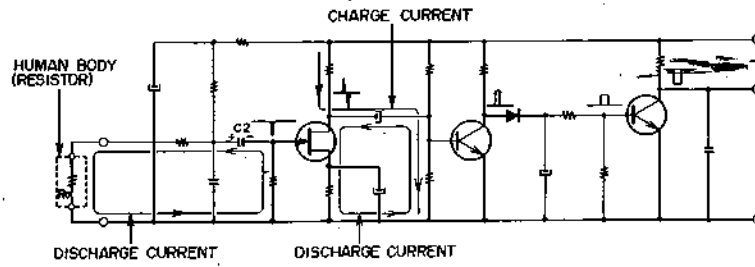

Fig. 5
2-3. WHEN A BUTTON IS TOUCHED WITH A FINGER AND AT THE SAME TIME THE DECK CHASSIS IS TOUCHED WITH ANOTHER FINGER OR A HAND (See Fig. 5)
As previously explained our body acts as a signal source to operate the touch buttons, but when considering that in this case the high resistance of the human body is utilized, the Q1 gate circuit operation is different. As shown in Fig. 5, when a button is touched with a finger and the chassis is touched simultaneously, by means of the resistor shown in the circuit diagram, C2 electric charge passes R1 → R0 → R4 and is discharged. From looking at the circuit, it can be understood that discharge is completed in an extremely short time. In this very short discharge time period, FET is cut, the drain voltage increases, and condenser C3 is charged. When C2 discharge is complete and the voltage of both terminals becomes equal, FET drain current flows and the electric charge charged at C3 is discharged. Consequently, Q2 base is minus biased and ceases to operate. Thus, Q3 functions in the same way as a micro switch as outlined in item 2-2 above.